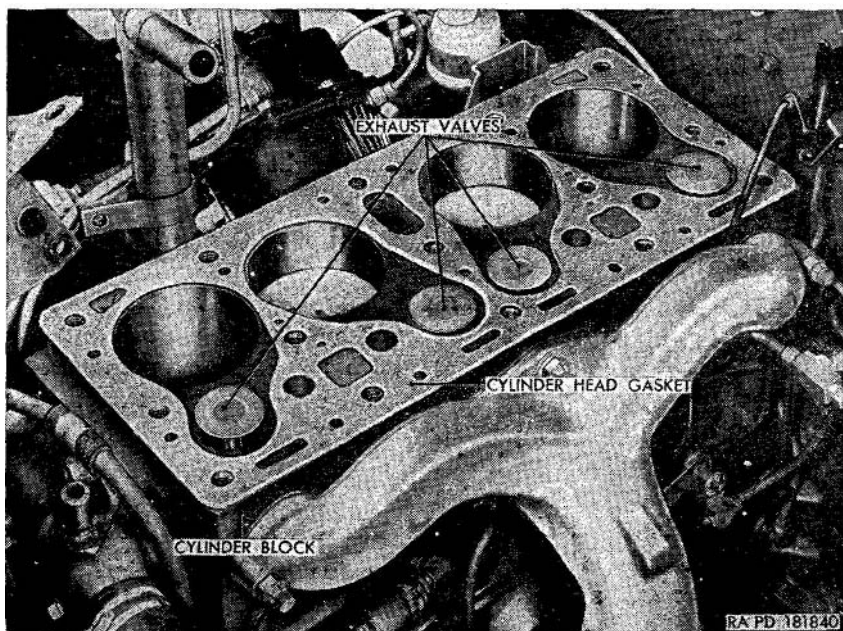

Figure 47. Cylinder head gasket positioned on cylinder block.
- (11) Remove the carburetor assembly (S) (par. 134b).
- (12) Unscrew the studs (C) from the tops of the two end rocker arm shaft brackets (E). Turn the studs over and screw the long ends of the studs into the brackets so that the rocker arm assembly components will stay together as a unit when removed from the cylinder head.
- (13) Remove the four lock nuts (D) securing the rocker arm shaft brackets (E) to the studs in the top of the cylinder head. Lift the rocker arm shaft brackets, rocker arms, rocker arm shaft, and springs as a unit from the top of the cylinder head.
- (14) Remove the four push rods (H) by lifting them out through the cylinder head holes.
- (15) Remove the two screws securing the lifting hook (Q) to the cylinder head and the cylinder head to the cylinder block. Remove the lifting hook. Remove the flat washer beneath the lifting hook and the top of the cylinder head at the rear hole of the hook.
- (16) Remove the screw securing the oil filter bracket (L) to the cylinder head and the right front of the cylinder head to the cylinder block. Push the bracket and oil filter assembly (M) away from cylinder head to prevent interference with the head when removing it.
- (17) Remove the screw securing the accelerator upper **bellerank** (G) to the cylinder head and the left side of the cylinder head to the cylinder block.
- (18) Working through the hole over which the carburetor is mounted, when installed, remove the screw securing the cylinder head to the cylinder block.
- (19) Remove the remaining 10 screws (B) and flat washers securing the cylinder head to the cylinder block.
- (20) Lift the cylinder head (T) from the top of the cylinder block.
- (21) Remove and discard the cylinder head gasket (fig. 47) from either the bottom of the cylinder head or the top of the cylinder block.
- (1) Clean gasket and carbon deposits from both the cylinder head and the cylinder block.
- (2) Carefully position a new cylinder head gasket on the cylinder block (fig. 47).
- (3) Carefully lower the cylinder head onto the cylinder head gasket and cylinder block. Insert a  $\frac{1}{16}$ -inch flat washer and  $\frac{7}{16} \times 4\frac{1}{4}$  screw at each end of the cylinder head to properly align cylinder head with cylinder head gasket and cylinder block.
- (4) Position the oil filter bracket (L) on the cylinder head in alignment with the first two holes on the right side, and install the  $\frac{7}{16} \times 4\frac{1}{4}$  screw in the front hole.
- (5) Position the lifting hook (Q) over the rear hole in the oil filter bracket and start a  $\frac{7}{16} \times 4\frac{5}{8}$  screw into the thread.